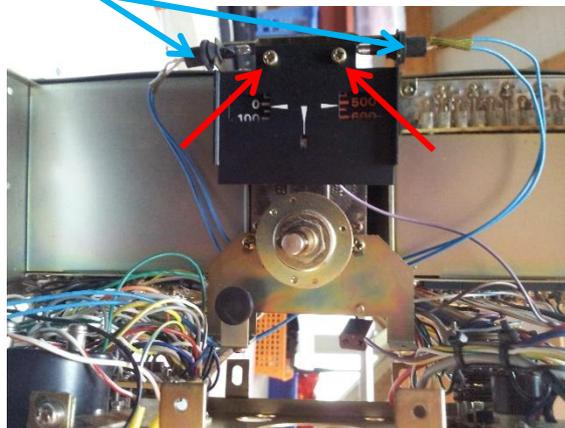

Figure 10
- Remove the scale disk and the two screws of the scale cover as well as the two scale illumination lamps. (see Figure 10)